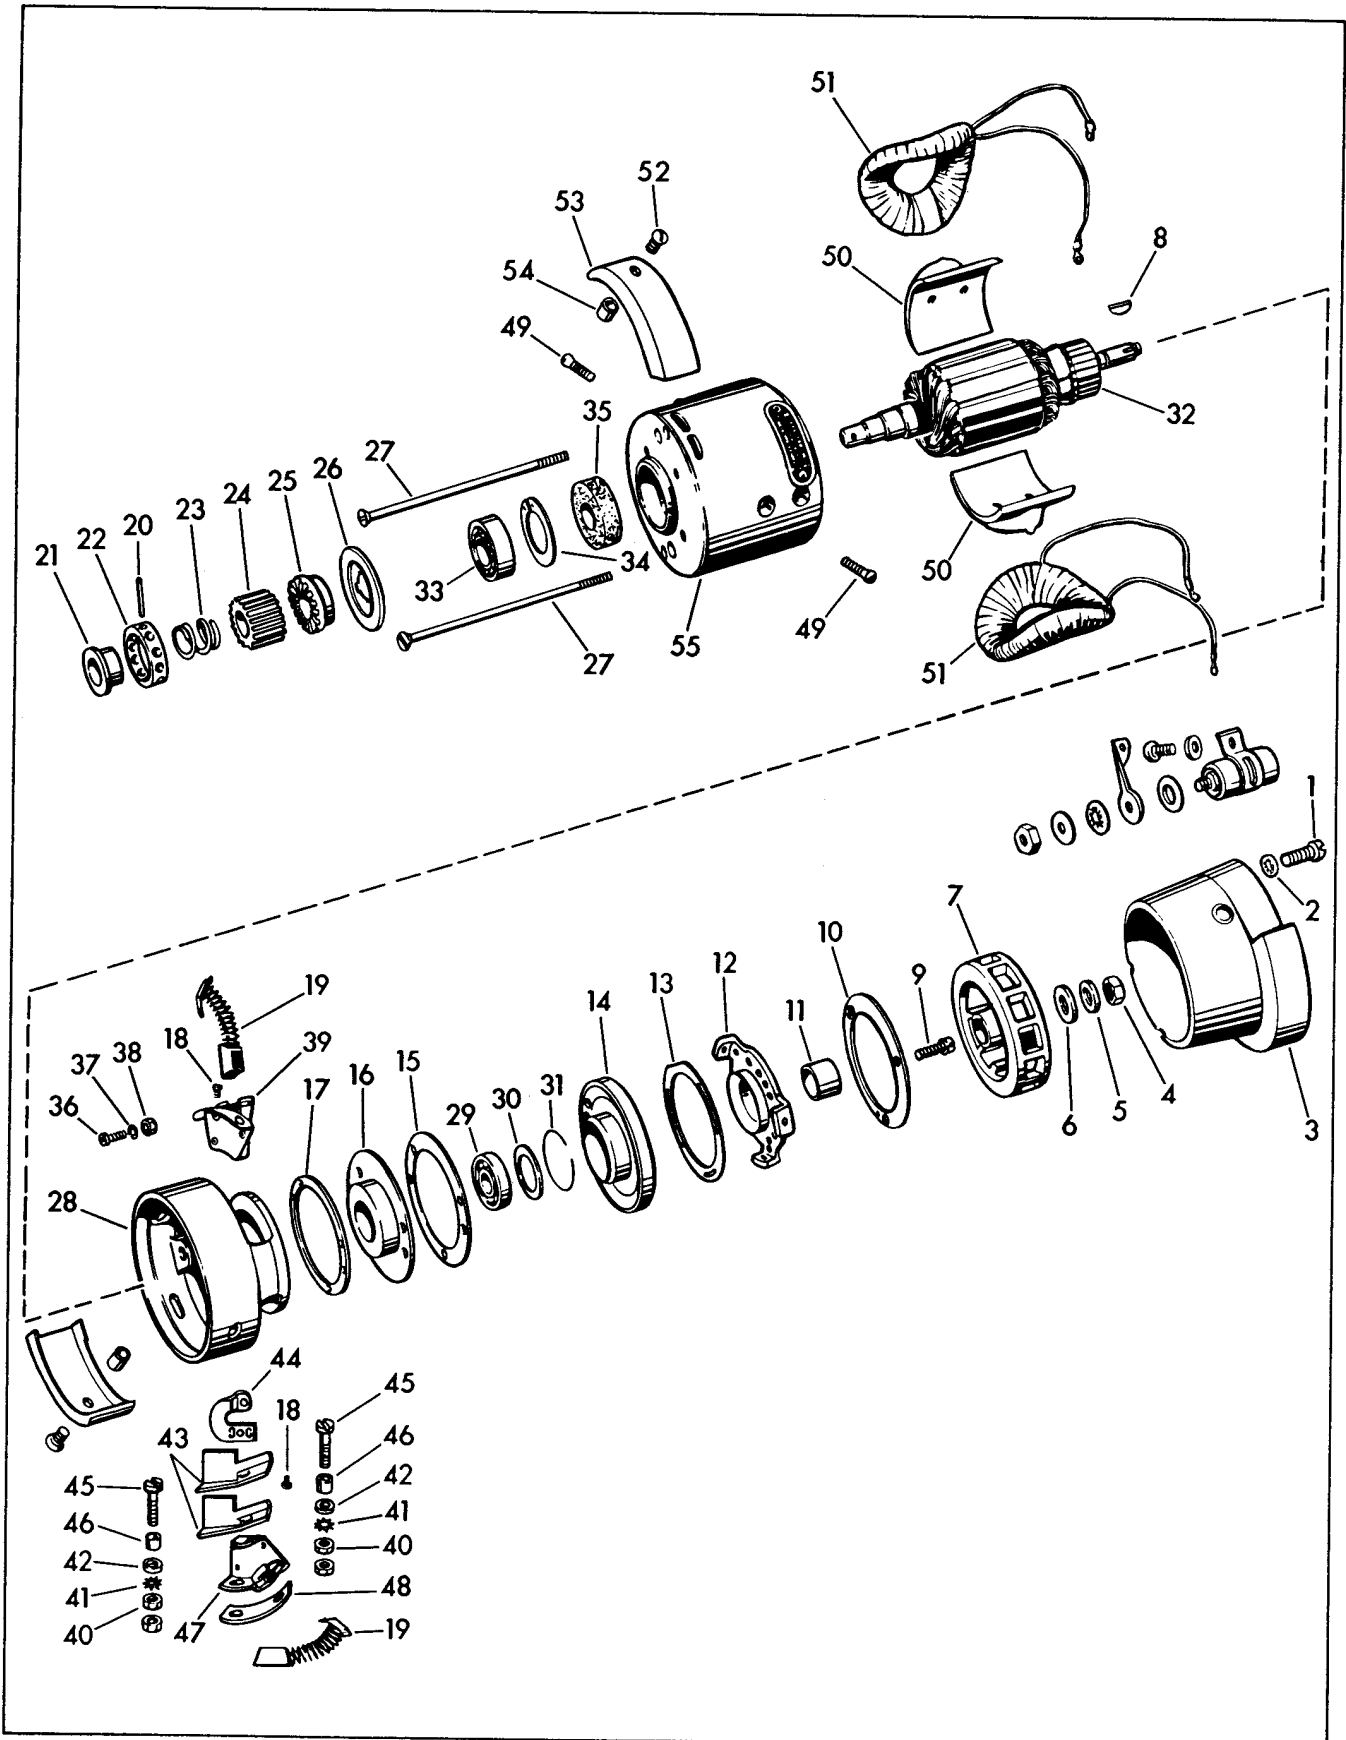

Figure 5E-7. Model 58R Generator
See Fig. 5E-7. Remove the three screws (1) and washers (2) securing the fan housing (3) and remove it. Inspect brushes to make sure they are not worn out, broken or gummy and sticking in holders.
LEGEND FOR FIGURE 5E-7